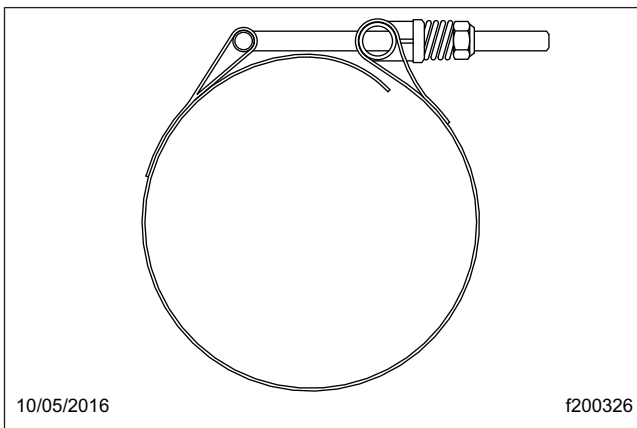
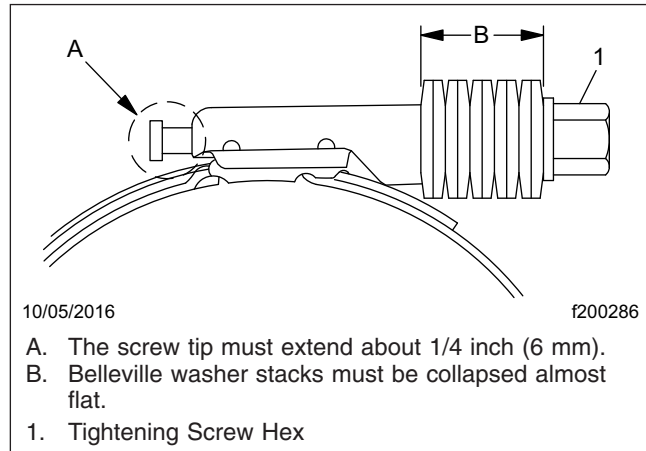

Fig. 5, T-Bolt Type Hose Clamp
Fig. 6, Breeze Constant-Torque Hose Clamp Installation
8. Connect the hoses. The hose clamps on the main radiator can be either T-bolt clamps (see Fig. 5) or Breeze Constant-Torque clamps (see Fig. 6).